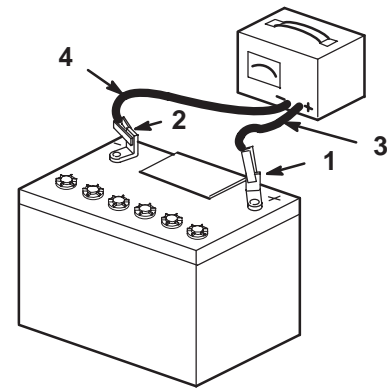

Figure 3
- When the battery is fully charged, unplug the charger from the electrical outlet, then disconnect the charger leads from the battery posts (Fig. 3).